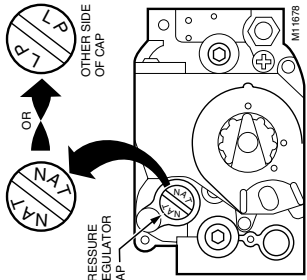

Fig. 1. Top view of convertible pressure regulator cap.
1. Remove the pressure regulator cap. Fig. 1.